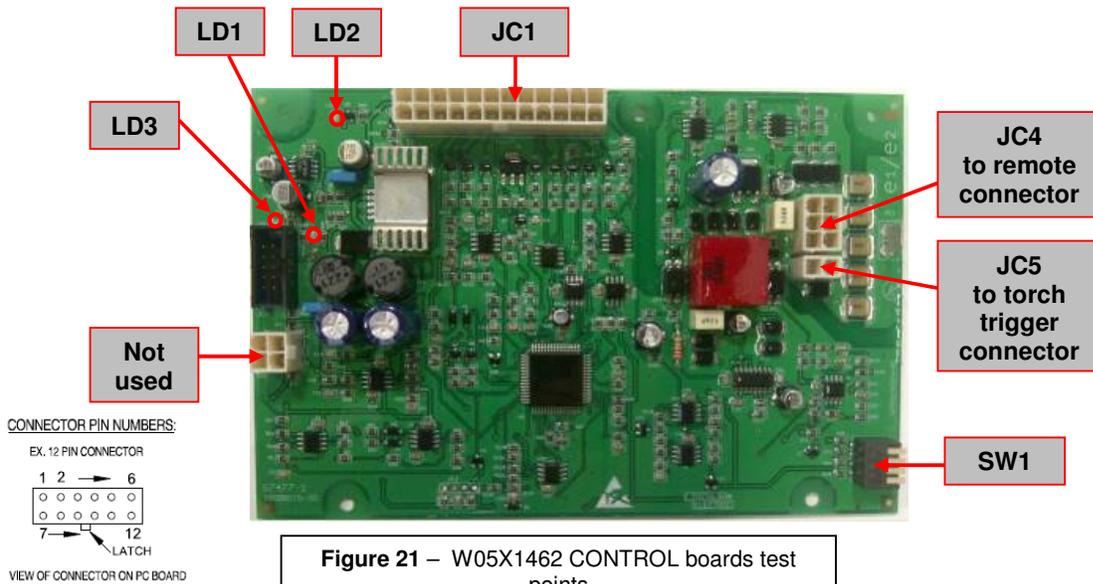
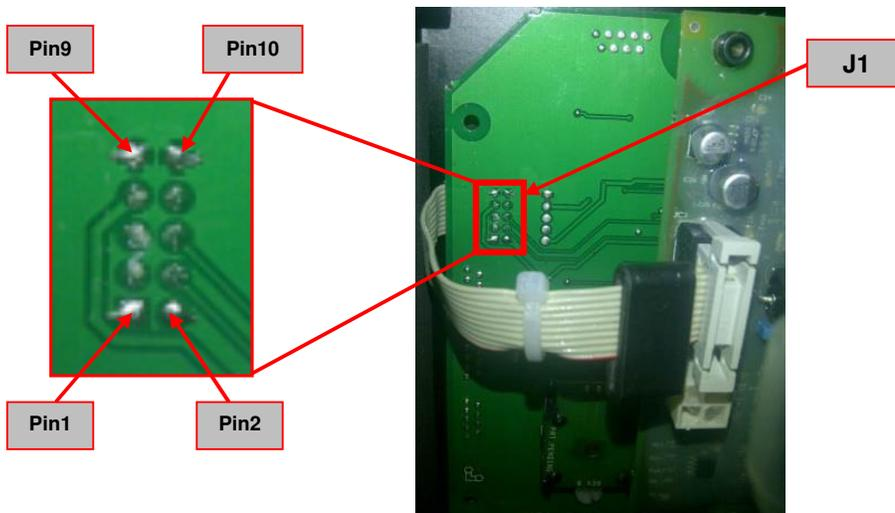

Figure 21 – W05X1462 CONTROL boards test points
Figure 22 – W05X1529 User Interface boards test points
6. Perform the voltage tests detailed in **Test Table 13**. See **Figure 21** and **Figure 22** for Test Point locations.